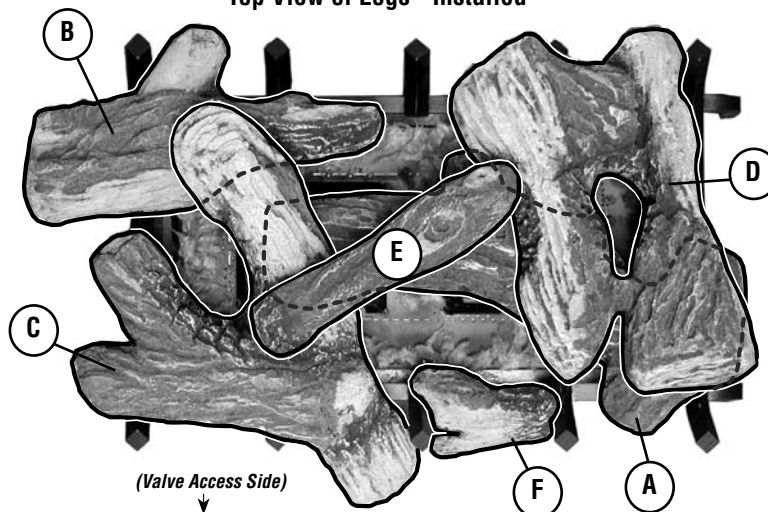

Figure 5
5. **Placement of Glowing Embers** - Separate the Embers (rockwool) into pieces about the size of a quarter (see **Figure 5**). Keep the pieces fluffed up, not matted. Distribute these pieces over the surface of the burner, as shown in **Figure 6**. Do not use more than is necessary. Ensure that the main burner ports remain uncovered by the ember material.